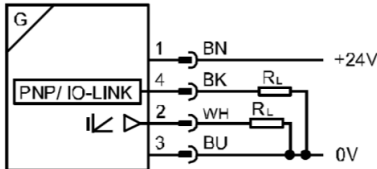

Fig. 2: Circuit diagram
1) Range Fig. 2, range A and C: red LED on